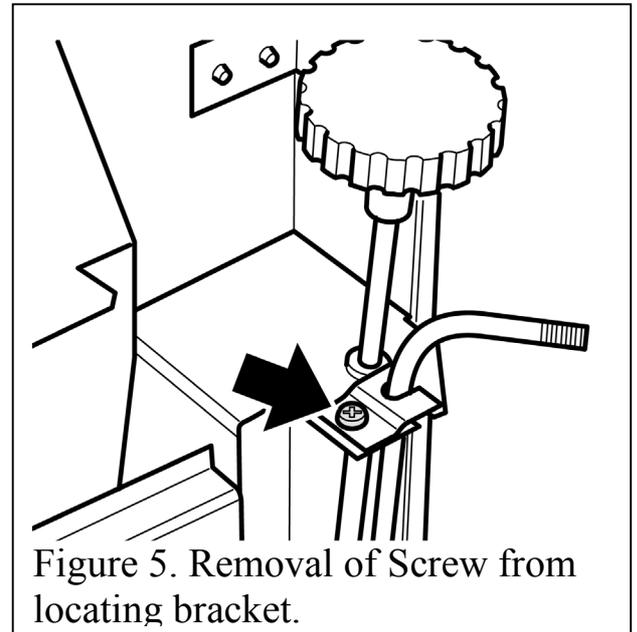

Figure 5. Removal of Screw from locating bracket.
*For models fitted with a locating bracket (See figure 5)*
1. Remove the self-tapping screw from the ignition bar locating bracket (See figure 5).
*For models **NOT** fitted with a locating bracket (See figure 5)*